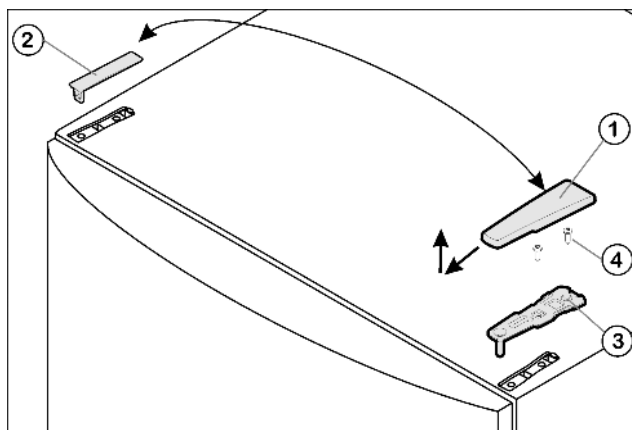

Fig. 4
- ▶ Pull off the cover Fig. 4 (1) forwards and upwards.
- ▶ Lift off the cover Fig. 4 (2).
- ▶ Unscrew the upper turn hinge Fig. 4 (3)(2x Torx® 25) Fig. 4 (4) and lift it off.
- ▶ Insert the upper turn hinge *Fig. 4 (3)* in the door on the new hinge side.
- ▶ Screw the upper turn hinge **firmly** into place (**with 4 Nm**) (2x Torx® 25) *Fig. 4 (4)*. Possibly make preliminary holes with a bradawl or use a cordless screwdriver.
- ▶ Apply the cover *Fig. 4 (1)* and cover *Fig. 4 (2)* to the opposite side from the outside and snap them into place.